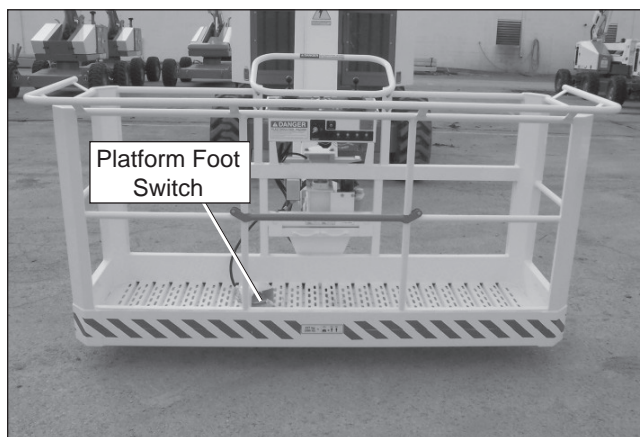

Figure 10.4 – Platform Foot Switch
4. Step down on the platform foot switch (refer to Figure 10.4).